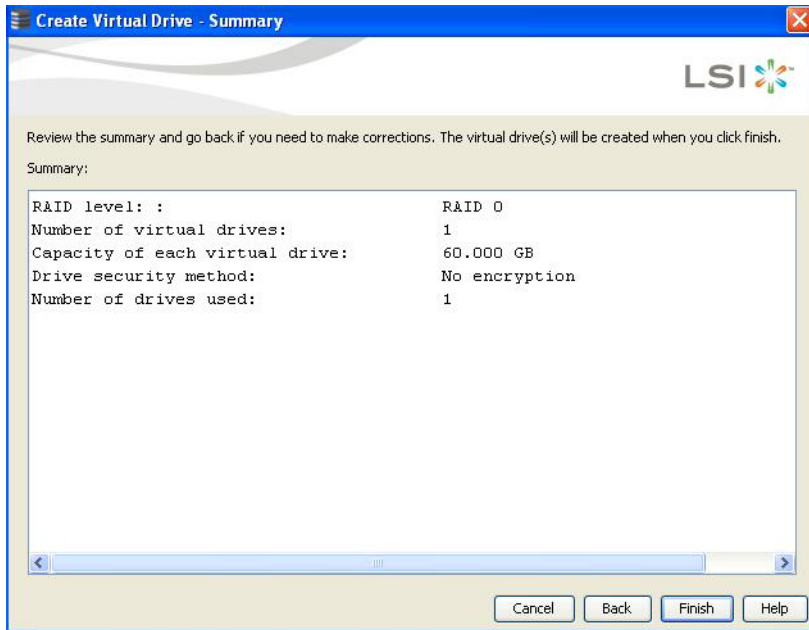

Figure 181 Create Virtual Drive - Summary Window
- If unconfigured drives are available, select the radio button to use the unconfigured drives, and click **Next**. Continue with step 10. The Summary window appears as shown in Figure 181.